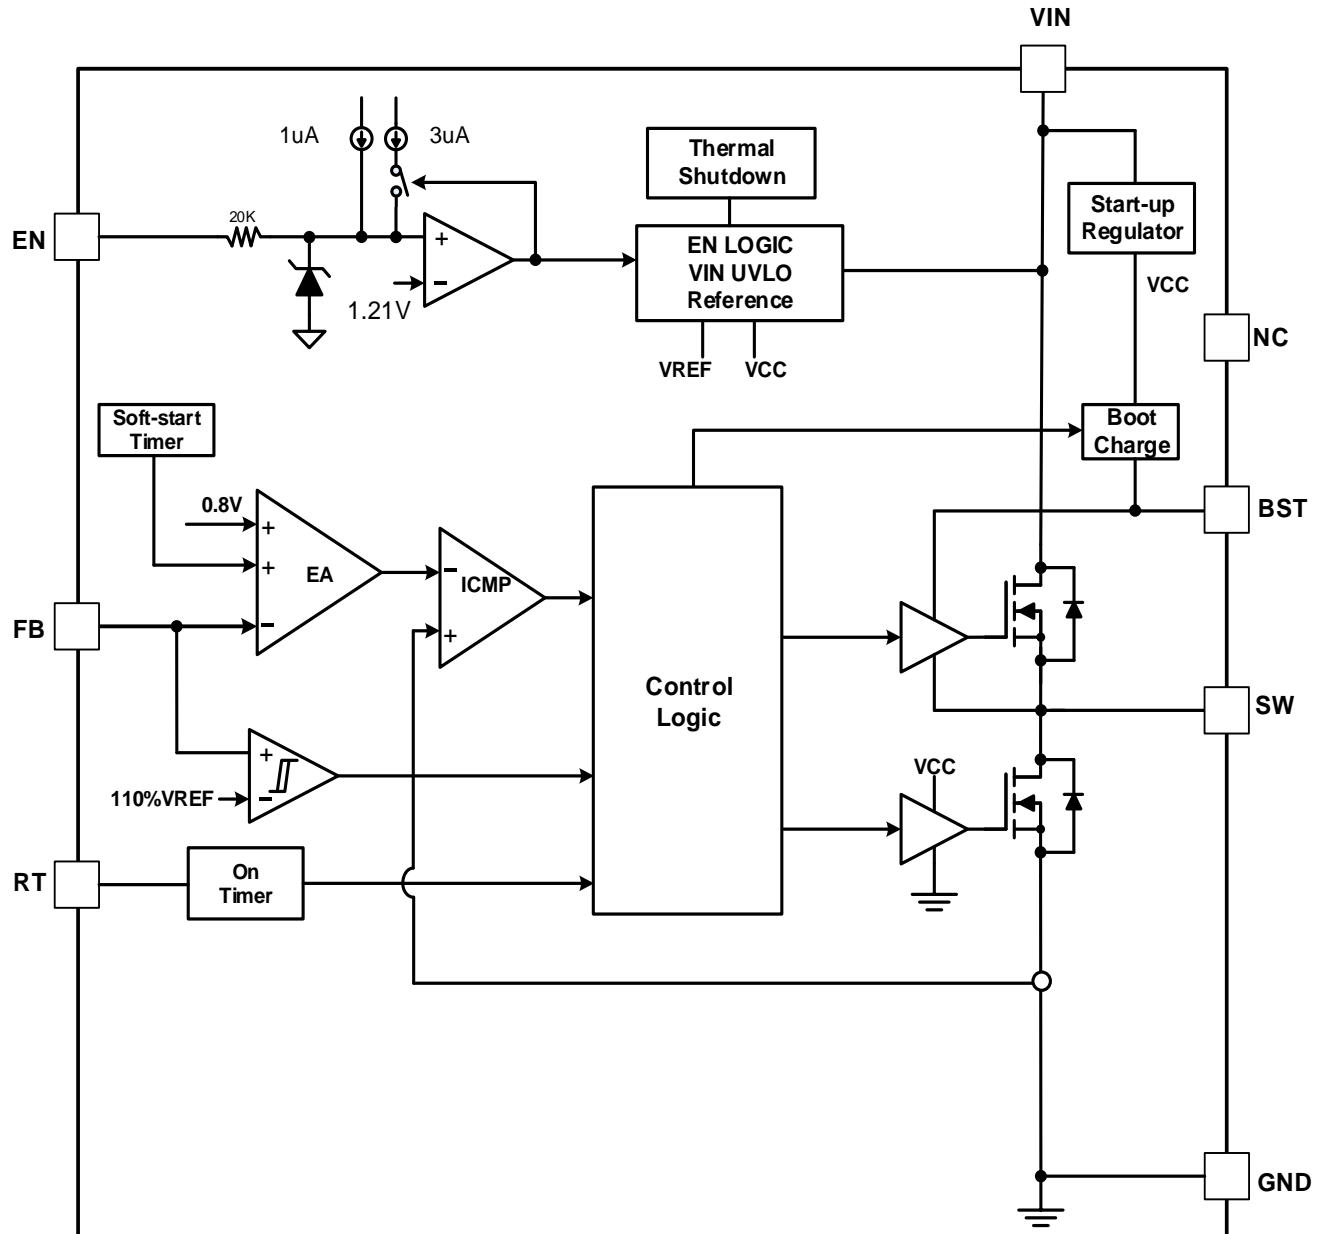

Figure 8. Functional Block Diagram
- Revision 1.3: Update figure 8